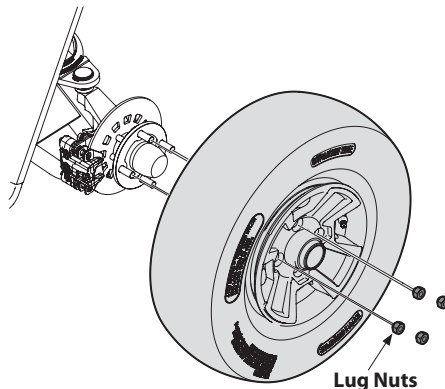

Figure 4-12
- Loosen but do not remove the four lug nuts from the axle hub. See Figure 4-12.